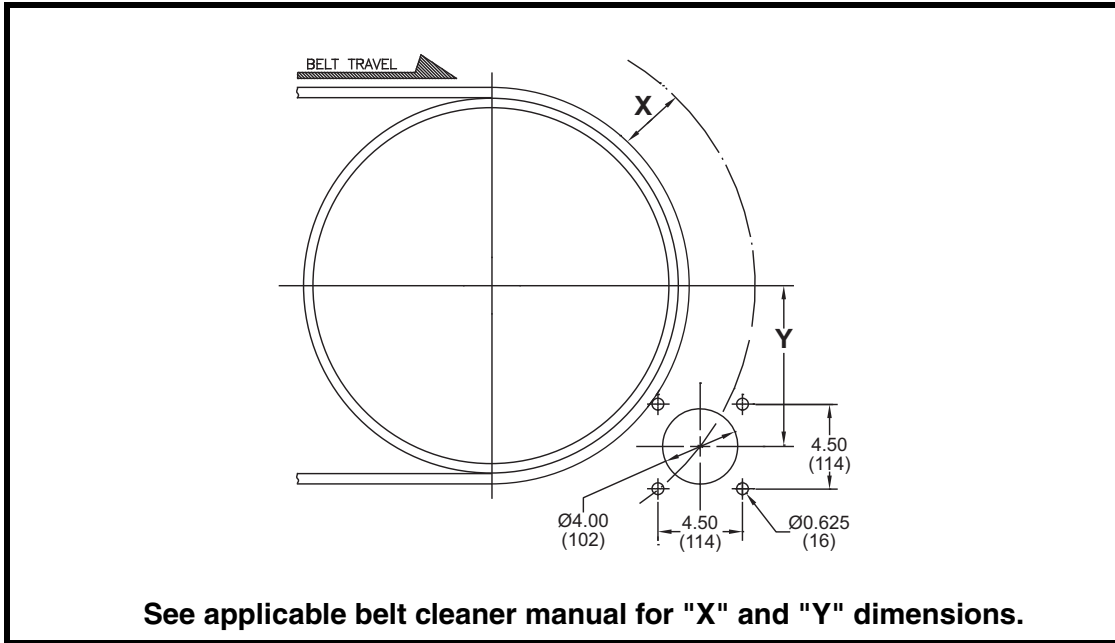
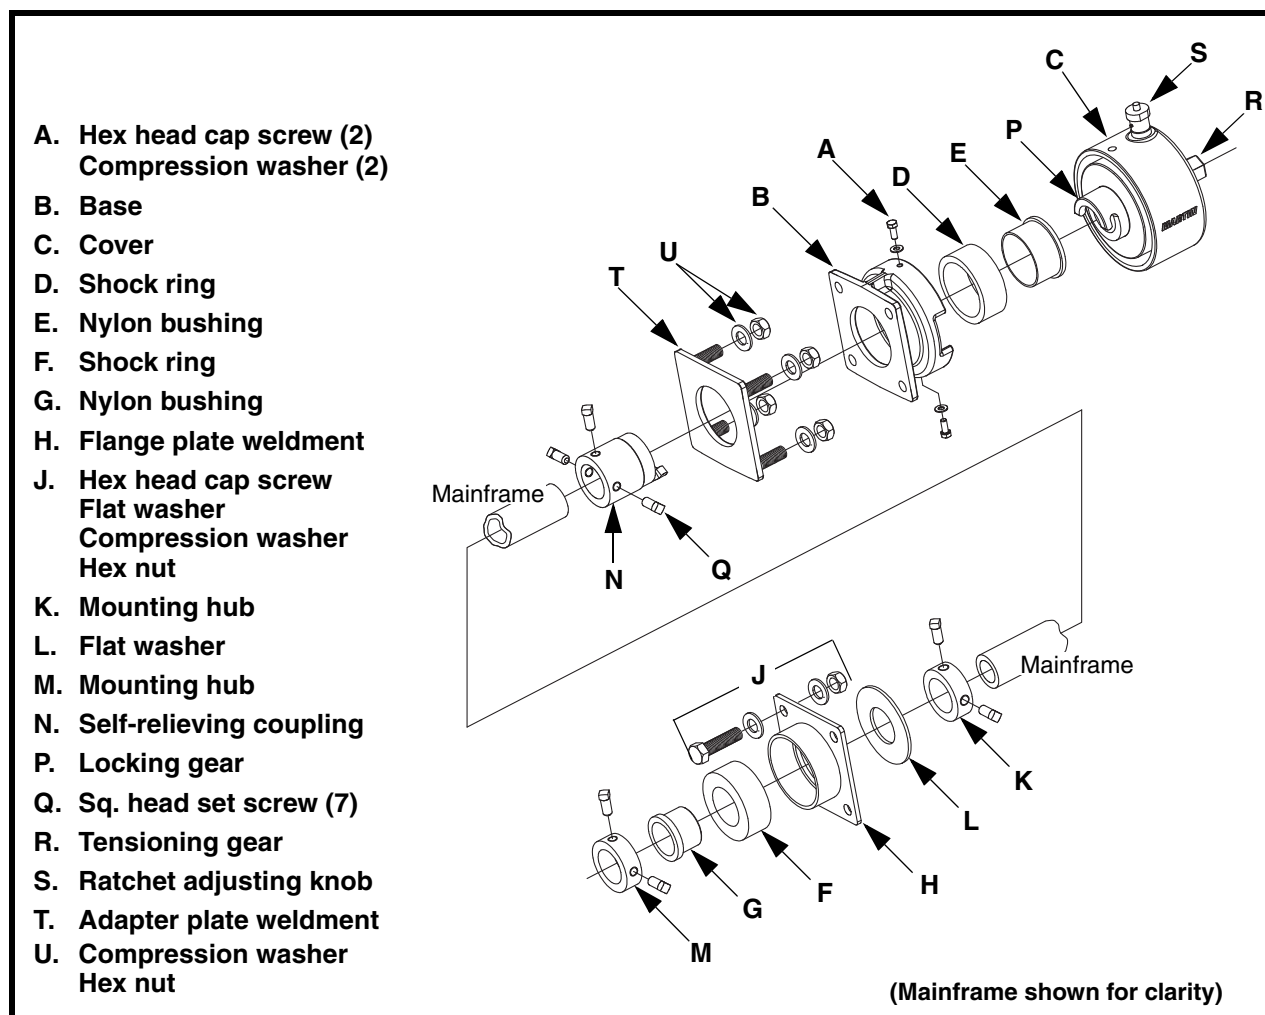

Figure 1. Locating Mounting Plates
Figure 2. Martin® Twist Tensioner Assembly
1. Mark location of holes for belt cleaner mounting plates on chute walls according to Figure 1. Use flange plate weldment (H, Figure 2) as template.
- (1) Drill or cut one 4-in. hole for mainframe and four 5/8-in. holes for screws in both operator side and far side chute walls. Remove burrs and sharp edges.
- (2) Install tensioner assembly and mounting plate onto wall with cap screws, flat washers, compression washers, and nuts (J, Figure 2).